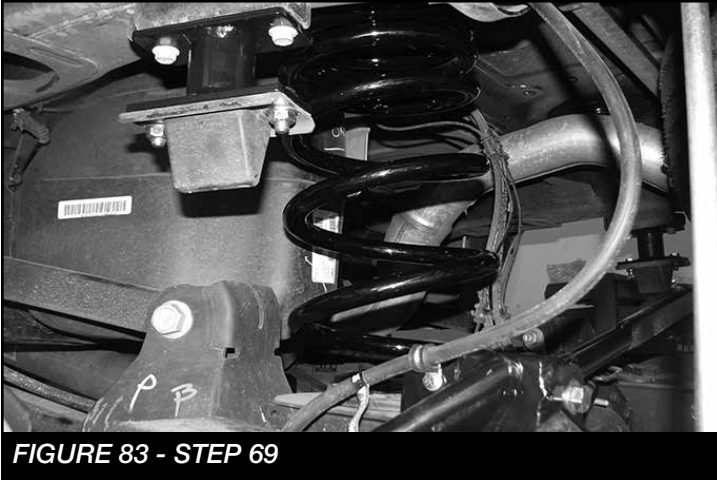

FIGURE 83 - STEP 69
69. Locate and Install (FT44321BK) Fabtech rear spring using the factory rubber isolators as shown. **SEE FIGURE 83**